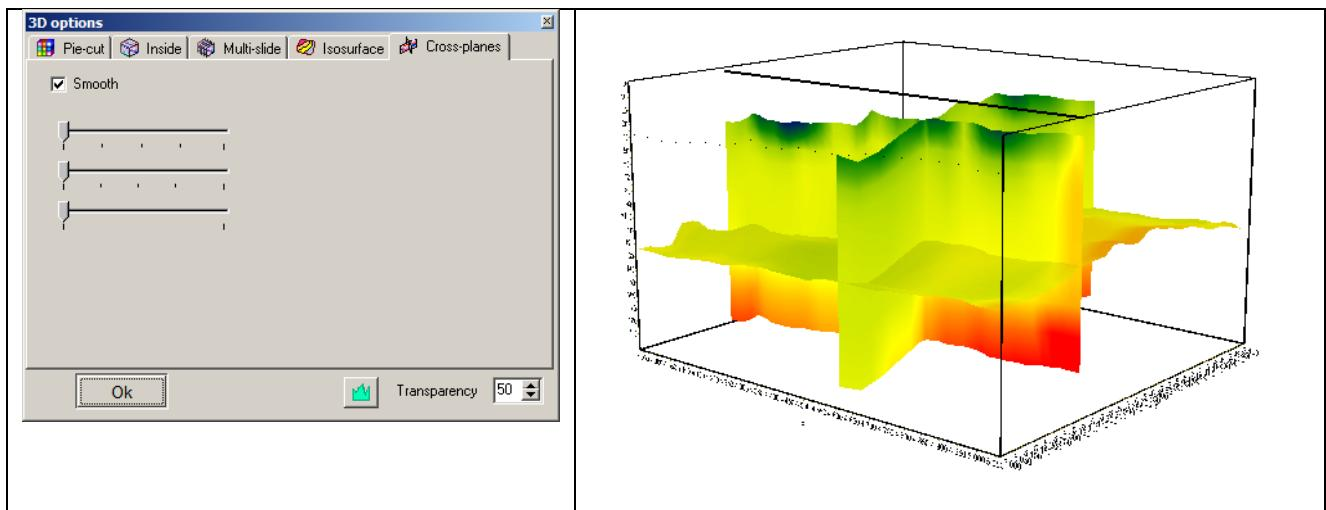

Fig. 57. Dialog window 3D options, Multi-planes tab (A) and an example of the corresponding model visualization (B).
**Multi-planes tab** – displays three semi-transparent mutually intersecting planes (fig. 57). **Smooth** option activates the model graphical construction regime with a continuous interpolative filling. Three sliders determine the position of the model intersection planes.